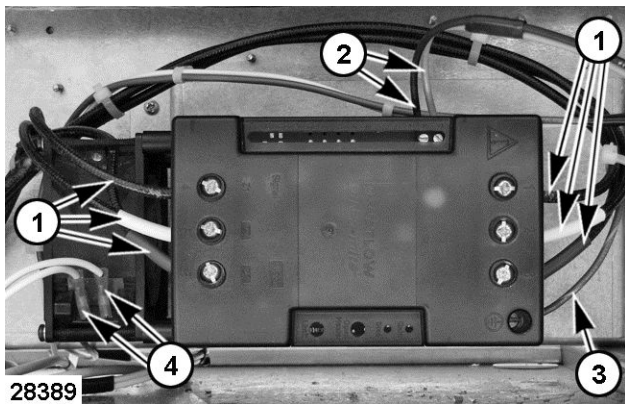

Fig. 41
2. Note load wire locations [1] Fig. 41 and disconnect from solid state contactor.
3. Disconnect control signal wires [2] Fig. 41 and ground wire [3] Fig. 41 from solid state contactor.
4. Disconnect wires [4] Fig. 41 from cooling fan terminals.